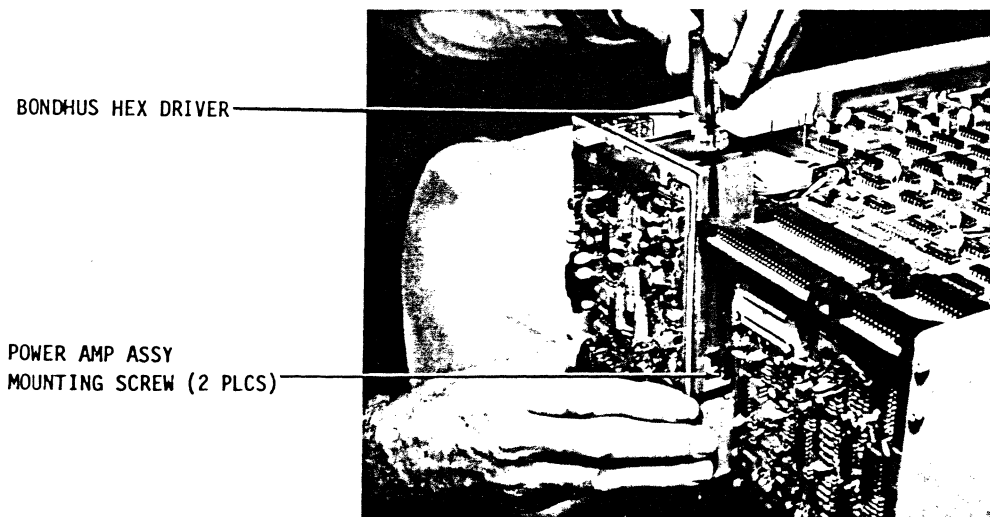

Figure 5-6
- d) Remove the two socket head screws that mount the power amplifier assembly to the drive deck casting. See Fig. 5-6. The power amplifier assembly can now be removed from the drive.